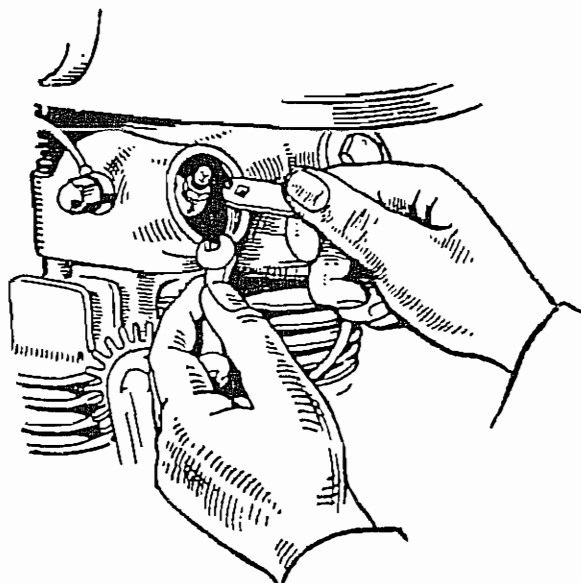

Fig. 8.
**Tools.** In the toolkit, two spanners are provided for this adjustment. (See Fig. 8).